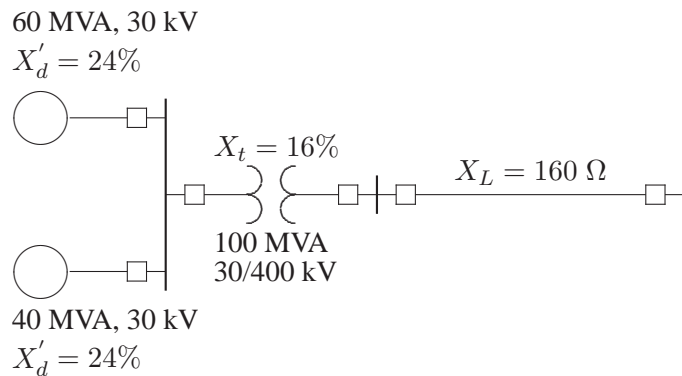

FIGURE 65
9.1. The system shown in Figure 65 is initially on no load with generators operating at their rated voltage with their emfs in phase. The rating of the generators and the transformers and their respective percent reactances are marked on the diagram. All resistances are neglected. The line impedance is $j160 \Omega$. A three-phase balanced fault occurs at the receiving end of the transmission line. Determine the short-circuit current and the short-circuit MVA.